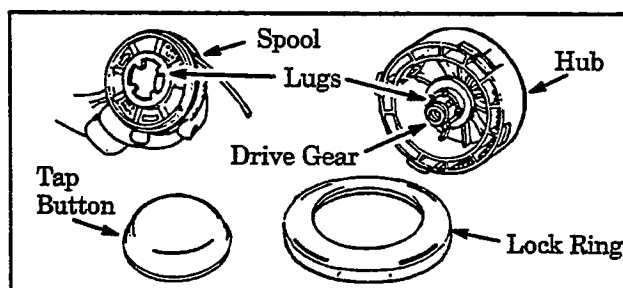
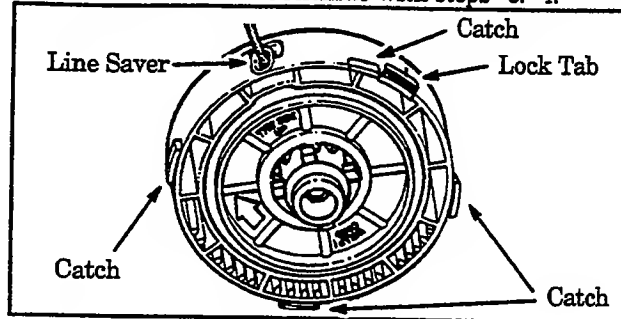

Figure 16
Figure 17
- b. Remove the lock ring, tap button, and spool. Figure 16.
NOTE: The aluminum line saver (Figure 17) can become worn during use. After a groove is worn into line saver, remove it from trimmer head, turn it upside down, and reinstall it (with spool removed) to provide a new wear surface.
- e. Insert the end of the line through the line saver. Figure 17. Place spool in trimmer head. Press spool down, then turn it enough to lock lugs on spool under lugs on drive gear. Figure 16.
- f. Replace the tap button. Align the lock ring over the catches on the hub; push the lock ring down on the hub and turn it clockwise until the catches lock into place. Figure 17.